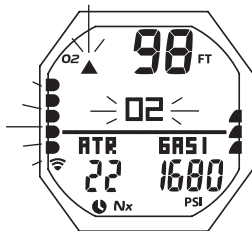

Fig. 105 - HIGH O2 (100%)
**O2 Alarm Main**, information includes (Fig. 105) -